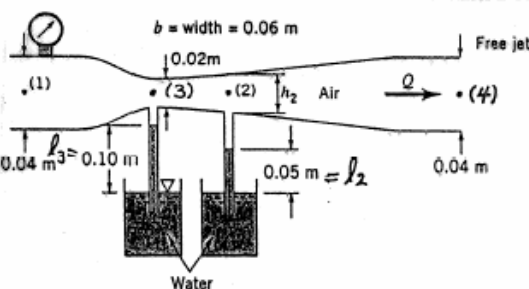

FIGURE P3.51
3.51 Air flows through a Venturi channel of rectangular cross section as shown in Video V3.6 and Fig. P3.51. The constant width of the channel is 0.06 m and the height at the exit is 0.04 m. Compressibility and viscous effects are negligible. (a) Determine the flowrate when water is drawn up 0.10 m in a small tube attached to the static pressure tap at the throat where the channel height is 0.02 m. (b) Determine the channel height, h_2 , at section (2) where, for the same flowrate as in part (a), the water is drawn up 0.05 m. (c) Determine the pressure needed at section (1) to produce this flow.